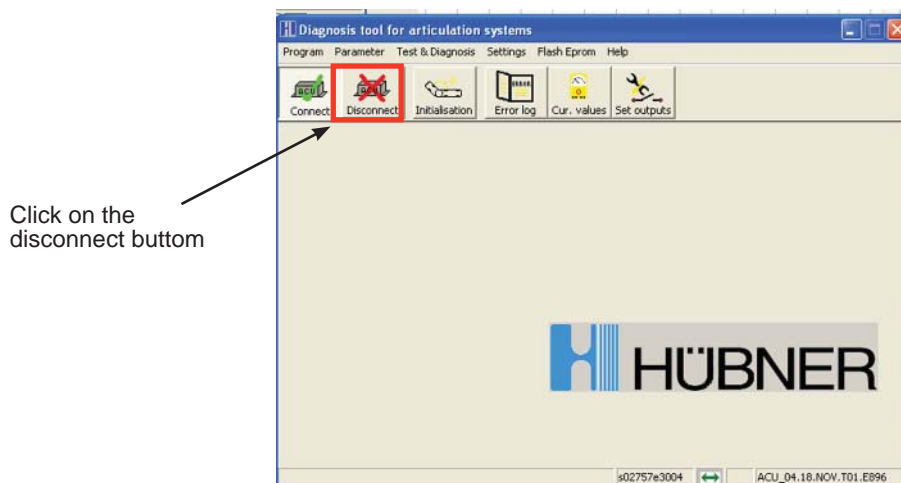

Figure 8 - Hübner Software Display
1.11.6. When complete, press the disconnect icon. See Figure 8.